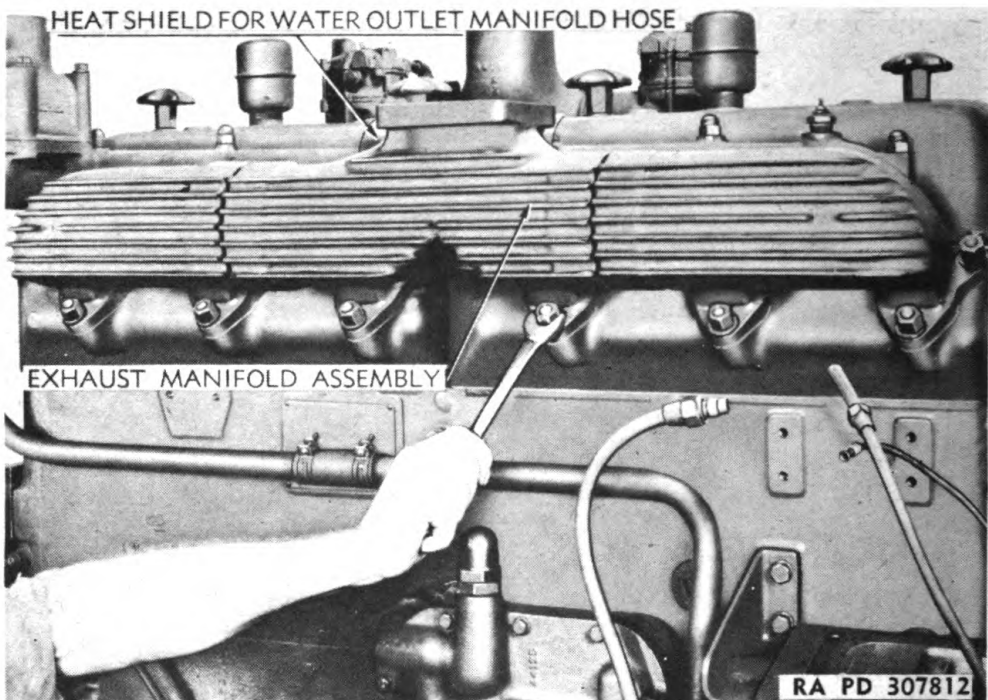

Figure 8 — Removing Exhaust Manifold Assembly
f. Remove Exhaust Manifold. Remove the eighteen nuts and washers from manifold studs (fig. 8) and lift manifold assembly and gaskets from studs.